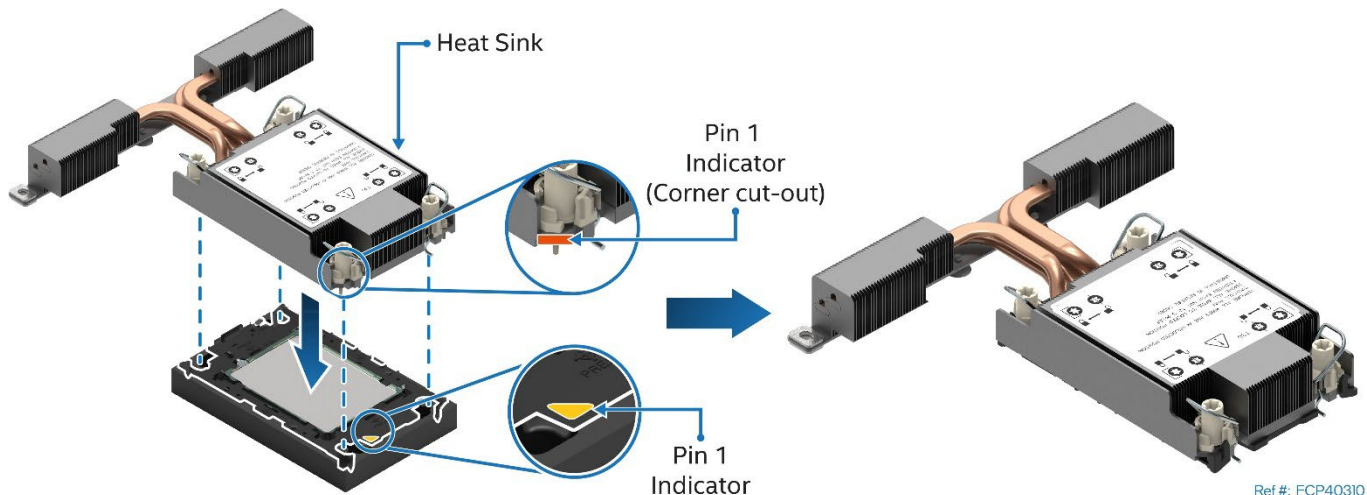

Figure 93. Pin 1 Indicator of Processor Carrier Clip
9. Align the Pin 1 indicator of the processor carrier clip with the corner cut-out on the heat sink (See Figure 93).